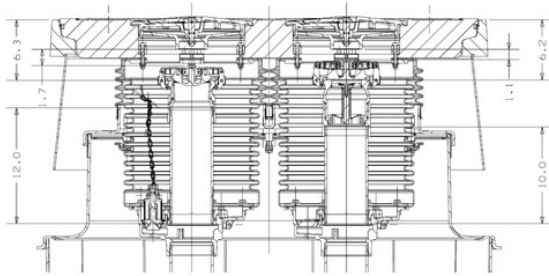

Figure 52
71. Install overfill valve, jack screw kits, pipe nipples, adapters, and caps into spill containers as specified in their installation instructions. Adapters must be no more than 8" from grade. Clearance between spill container cover and cap must be 1" minimum. Recommended dimensions are shown in Figure 52.